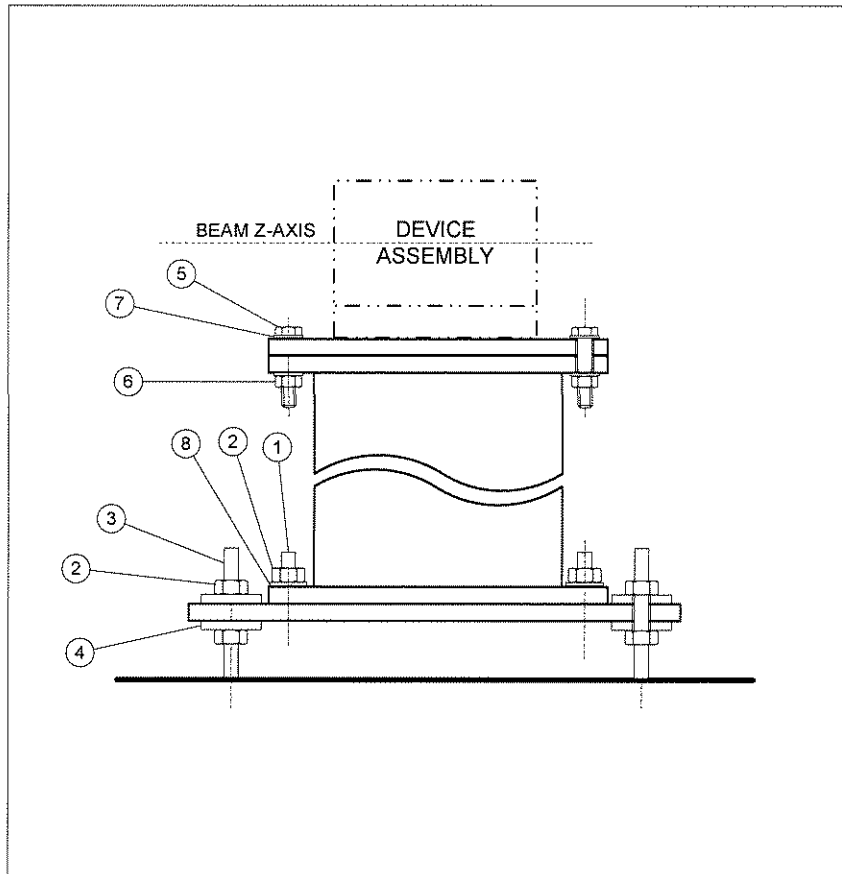

Figure 1
The LTU stands and devices will be installed and the installation hardware listed in table 2 torqued to the values listed in Table 2. The items in table 2 refer to the Figure 1 illustration.
1. The drift and component stand floor anchor nuts will be torqued to the values defined in table 2. Figure 1 illustrates a device or quadrupole stand. Items 1, 2, and 3 shown in figure 1 apply to the drift and component stands.